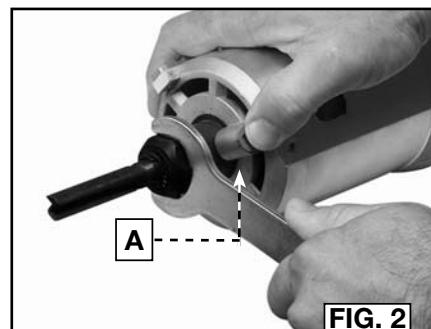

FIG. 2
4. Press the spindle lock button (A) Fig. 2.
5. Press the spindle lock button (A) Fig. 2.